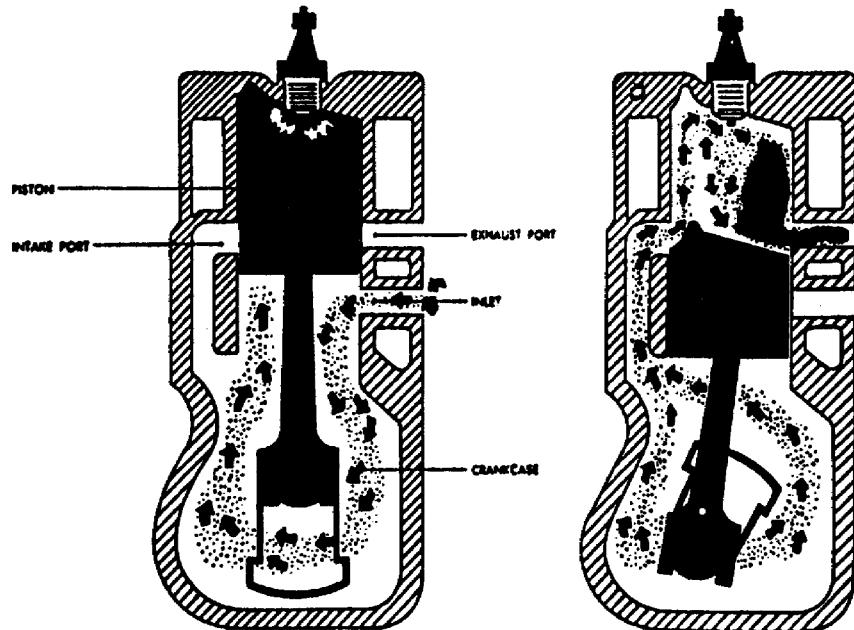

Figure 1-11. Events in A Two-Stroke Cycle,
a. Two-Stroke cycle. A two-stroke cycle gasoline engine is shown in Figure 1-11. Every other stroke on this engine is a power stroke. Each time the piston moves down, it is on the power stroke. Intake, compression, power, and exhaust still take place, but they are completed in just two strokes. Intake and exhaust ports are cut into the cylinder wall instead of being placed at the top of the combustion chamber as in the four-stroke cycle engine. As the piston moves down on its power stroke, it first uncovers the exhaust port to let burned gases escape and then it uncovers the intake port to allow a new air-fuel mixture to enter the combustion chamber. Then on the upward stroke, the piston covers both ports and at the same time, compresses the new mixture in preparation for ignition and another power stroke. In the engine shown in Figure 1-11, the piston is shaped so that the incoming air-fuel mixture is directed upward, sweeping out ahead of it the burned exhaust gases. Also, there is an inlet into the crankcase through which the air-fuel mixture passes before it enters the cylinder. This inlet is opened as the piston moves upward, but it is sealed off as the piston moves downward on the power stroke. The downward moving piston slightly compresses the mixture in the crankcase, giving the mixture sufficient pressure to pass rapidly through the intake port as the piston clears this port. This improves the "sweeping-out", or scavenging effect of the mixture as it enters and clears the burned gases from the cylinder through the exhaust port.
b. Comparison of Two-Stroke Cycle Engines. It might appear that a two-stroke cycle engine could produce twice as much horsepower as a four-stroke cycle engine of the same size, operating at the same speed. This is not the case. To scavenge the burned gases at the end of the power stroke and during the time both the intake and exhaust ports are open, the fresh air-fuel mixture rushes into and through a cylinder, a portion of the fresh air-fuel mixture mingles with the burned gases and is carried out the exhaust port. Also, due to the much shorter period, the intake port is open (as compared to the period the intake valve in a four-stroke cycle engine is open), a relatively smaller amount of air-fuel mixture is admitted. With less air-fuel mixture, less power per power stroke is produced as compared to the power produced in a four-stroke cycle engine of like size operating at the same speed, and with other conditions being the same. To increase the amount of air-fuel mixture, auxiliary devices are used with two-stroke cycle engines to assure delivery of greater amounts of air-fuel mixture into the cylinder. Figure 1-11 shows one device that uses compression in the crankcase. Other engines may use superchargers or turbochargers or both to increase power. Obviously, the greater the pressure developed, the more air carried into the cylinder.